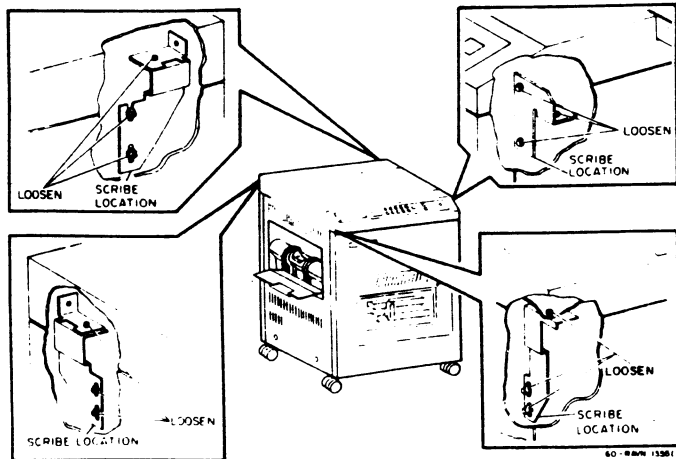

Figure 2. Adjustment of Top Cover
2. SCRIBE LOCATION OF BRACKETS AND LOOSEN THE SCREWS (FIGURE 2).